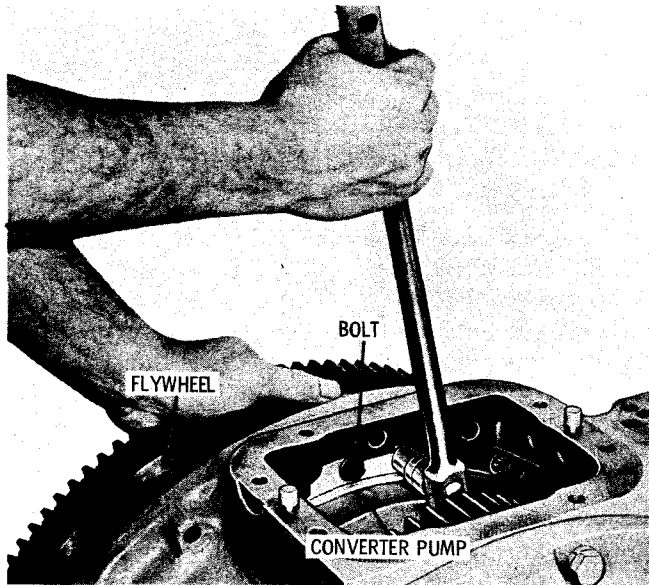

Fig. 7-91. Tightening flywheel bolts
(6) Install four 3/8-24 x 1 1/4-inch, self-locking bolts, with flat washers, at 90° intervals (fig. 7-91). Tighten these bolts to 10 pound feet torque. Install the remaining 32 bolts and flat washers. Tighten all 36 bolts to 41 to 49 pound feet torque.